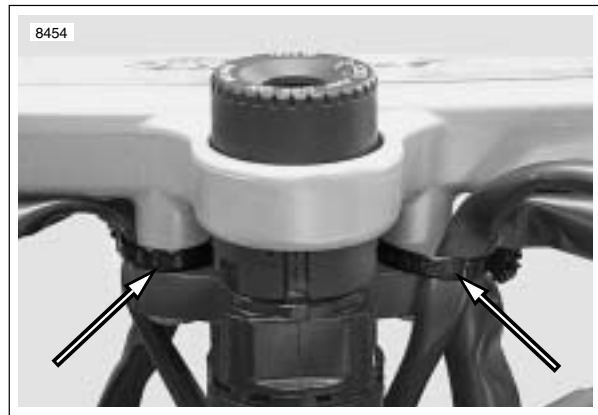
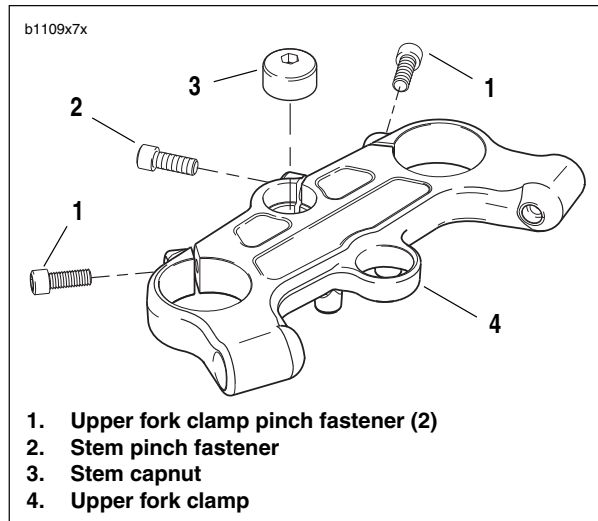
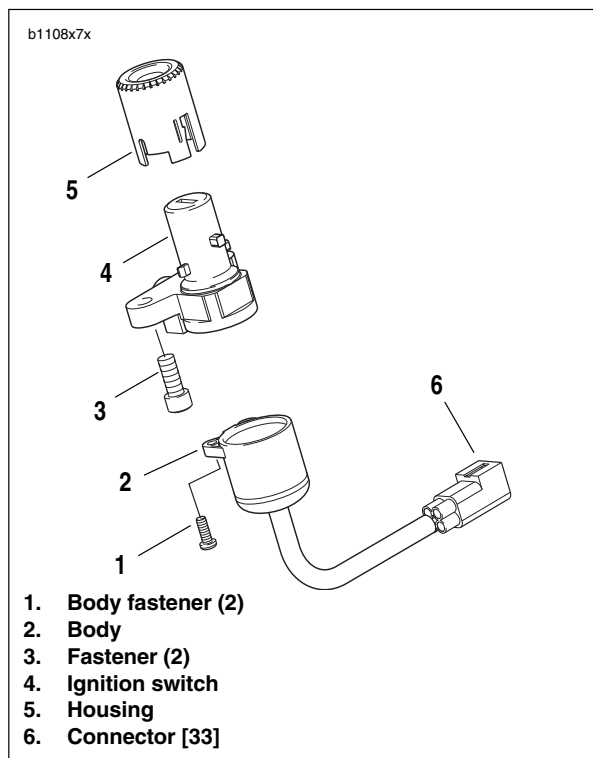
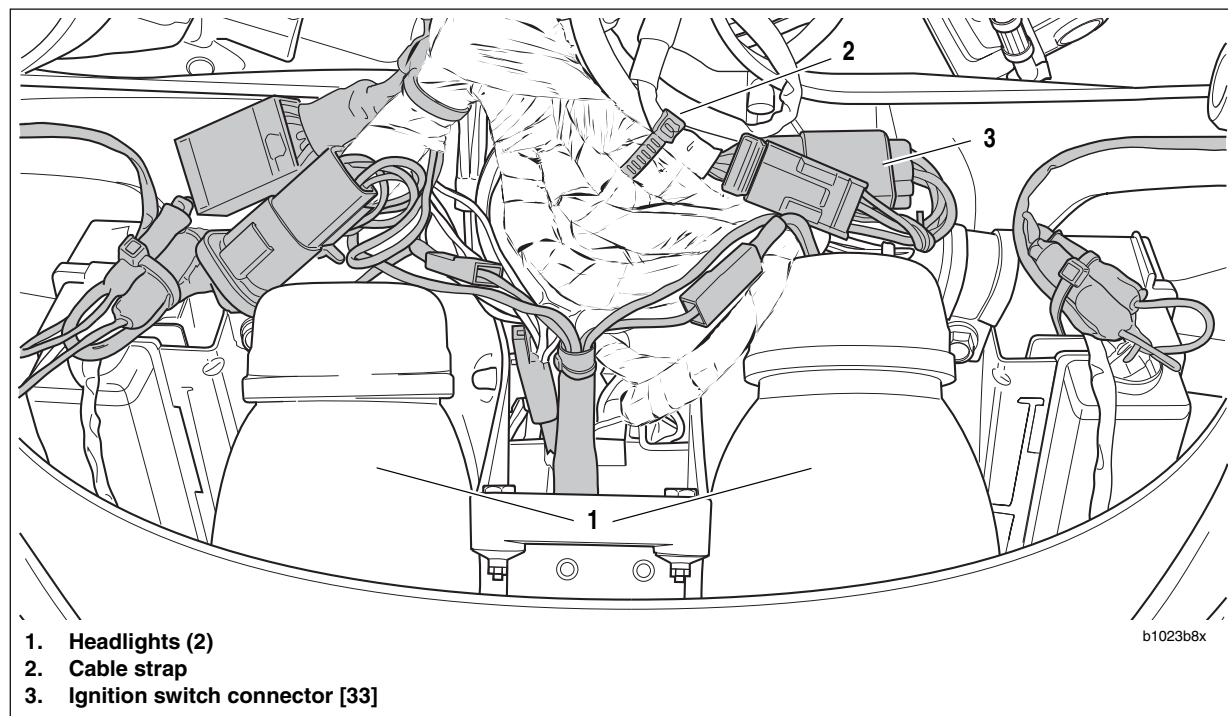

Figure 7-3. Cable Straps On Upper Fork Clamp
Figure 7-4. Upper Fork Clamp
Figure 7-5. Ignition Switch Assembly
Figure 7-6. Ignition Switch Connector (viewed from beneath fairing)
3. See Figure 7-6. Cut cable strap (2) holding ignition switch, fuse block and right handlebar switch wires.
4. Disconnect ignition switch connector [33] (3).
5. See Figure 7-3. Remove cable straps attached to the upper fork clamp.
7. See Figure 7-4. Remove steering stem pinch fastener (2).
8. Remove upper fork clamp pinch fasteners (1).
9. See Figure 7-4. Hold or brace the lower fork clamp and remove steering stem capnut (3).
10. Remove the upper fork clamp (4) from forks.
11. See Figure 7-5. Use Snap-on Tamper-Resistant T45 Torx driver, Part No FTXR45E to remove ignition switch fasteners (3) securing ignition switch (4) to upper fork clamp. Slide ignition switch out of upper fork clamp.
1. See Figure 7-5. Remove ignition switch housing (5) from ignition switch (4) by prying tabs on side of housing
2. Remove ignition switch body fasteners (1). Separate ignition switch body (2) from ignition switch (4).
See Figure 7-5. In next step, be sure wide slot in ignition switch housing (5) is installed over wide boss on ignition switch (4).
1. Push ignition switch housing (5) on to ignition switch (4).
1. See Figure 7-4. From beneath upper triple clamp (4), insert ignition switch assembly into hole. The word "OFF" stamped on the switch housing should face front of vehicle.
2. See Figure 7-5. Attach ignition switch assembly to upper triple clamp using ignition switch fasteners (3). USE LOCTITE 271 (red) on fasteners. Tighten to 18-20 ft-lbs (24.4-27.1 Nm).
3. See Figure 7-4. Install steering stem cap (3). Tighten but do not tighten.
- a. Apply LOCTITE 271 to upper fork clamp pinch fasteners (1).
- d. Install steering stem pinch fastener (2) applying LOCTITE 271 and tightening to 23-25 ft-lbs (31-34 Nm).
5. See Figure 7-6. Connect ignition key switch connector (3) to wiring harness. Install cable strap (2) around ignition switch, fuse block and right handlebar switch wires.
7. See Figure 7-3. Attach cable straps to upper fork clamp.